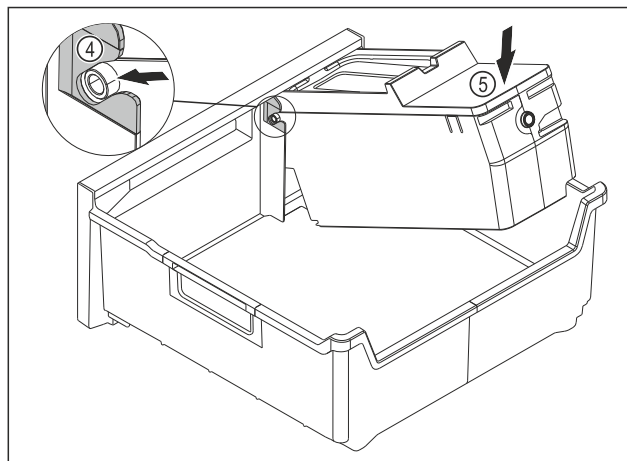

Fig. 158
- Installing the EasyTwist-Ice body: Push the axes for the EasyTwist-Ice body into the guides Fig. 158 (4).
- Press the EasyTwist-Ice body Fig. 158 (5) down at the back.